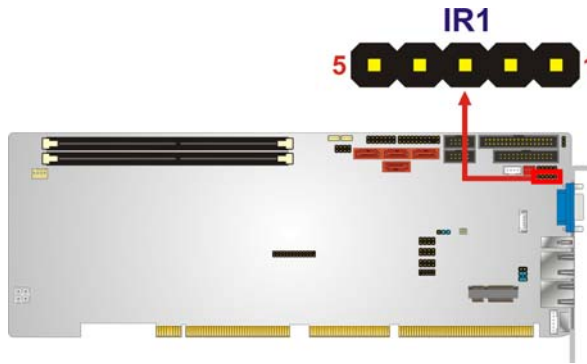

Figure 3-14: Infrared Connector Location
- CN Location:** See **Figure 3-14**